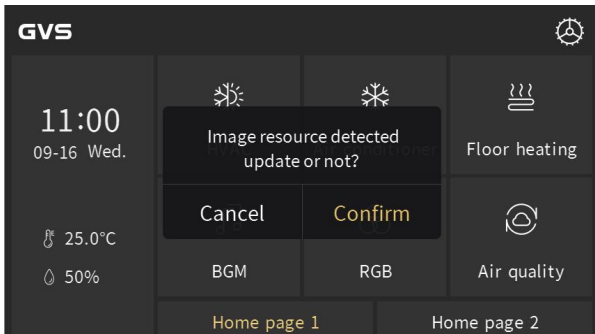

Fig.2.12.5
② Update pictures: when there is a folder named “picture” in the Micro SD card, and there is a picture in accordance with valid name and format, then it will update and store (even if the picture is the same as the last saved).
2. Insert Micro SD card into the device, if Micro SD card meet the above settings, and valid pictures are detected to be there, then will pop up a request window to confirm update, as shown in Fig.2.12.5;